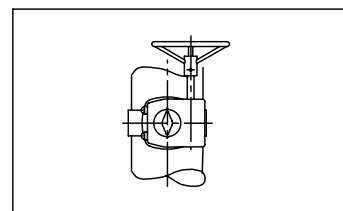

FIG. 3: HANDWHEEL IN LINE WITH PIPELINE
- Handwheel in line with pipeline (figure 3)